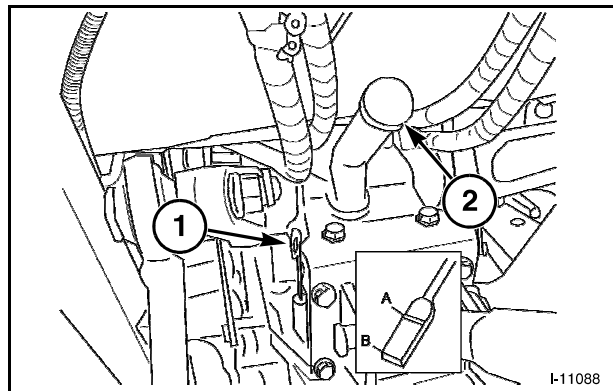

FIG. 130
FIG. 130: Start the tractor and allow to idle several minutes while operating the hydraulic controls. Shut the engine off and lower the three-point hitch. Use the dipstick (1) to check the oil level. Add transmission oil as necessary through the filler opening (2). Check for leaks and correct as necessary.